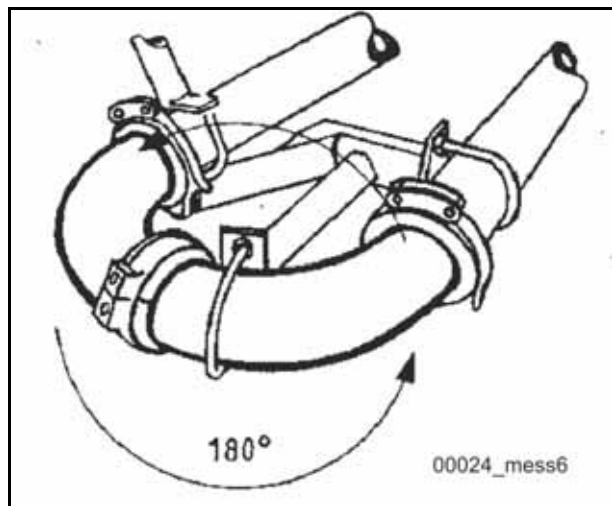

Fig. 371
- Turn pumping pipes and elbows 180° from the inlet side to the outlet side after 50 % of their expected service life (Fig. 371).